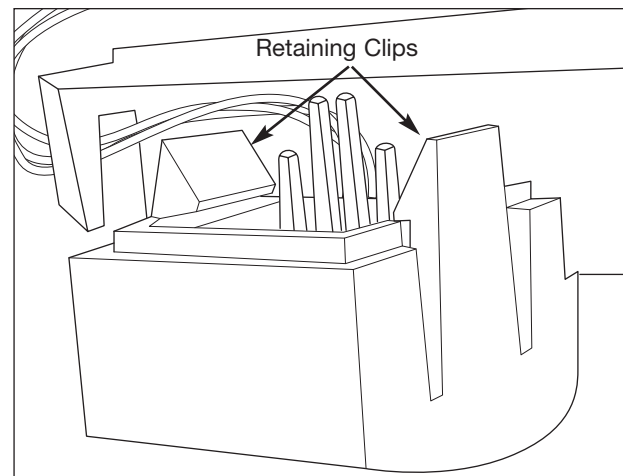

Figure 5-35. Flood Switch Removal
3. Using your fingers, spread out the retaining clips while pushing the flood switch out from the opposite side of the mount. (See Figure 5-35)